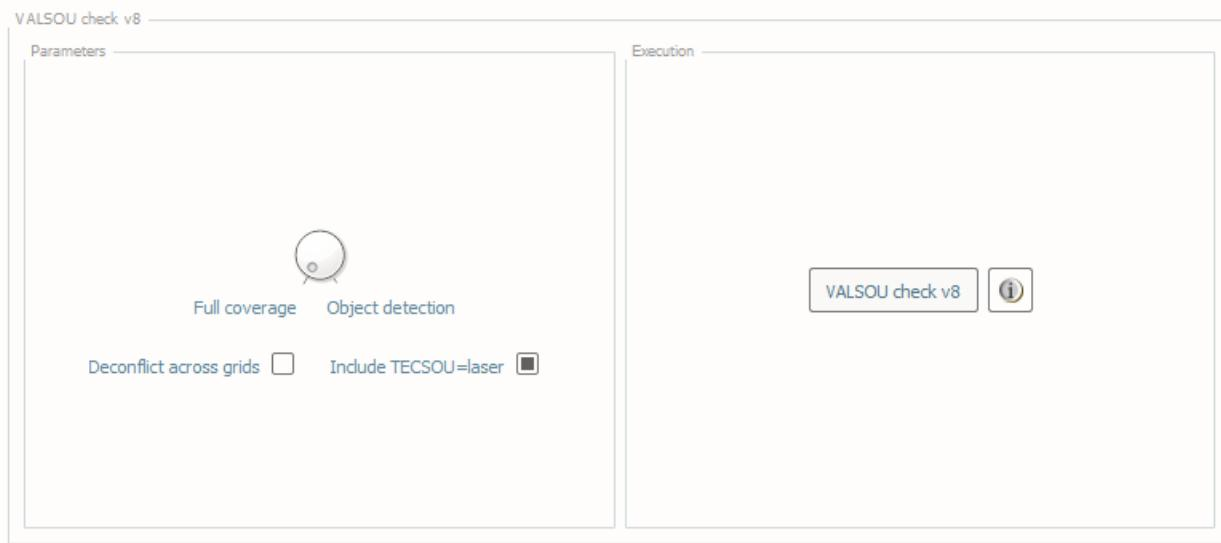

Fig. 2.51: The **VALSOU check** tab.
- Select the **VALSOU check** tab (Fig. 2.51) on the bottom of the QC Tools interface.